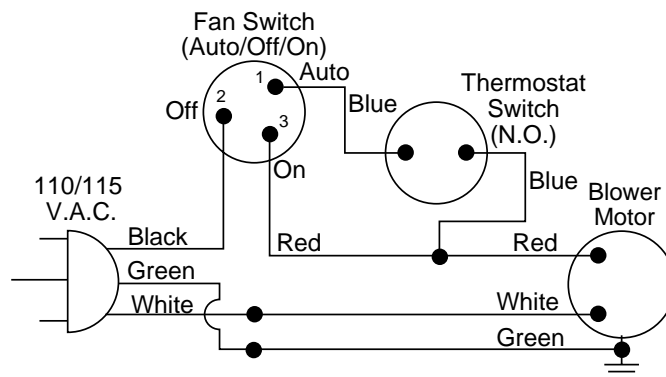

Figure 19 - Wiring Diagram For Fan Accessory Built-In Installation
4. A licensed electrician must follow the wiring diagram in Figure 19 to connect incoming electrical supply to fan kit wiring harness.